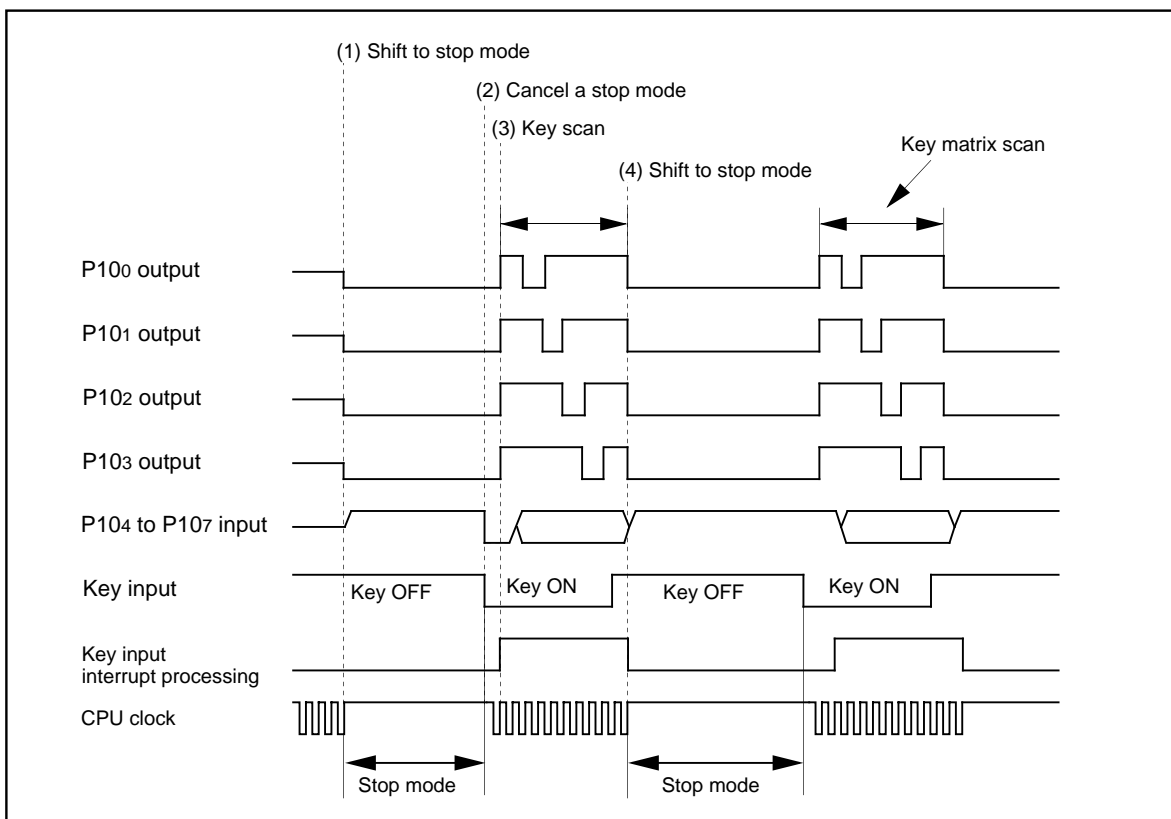
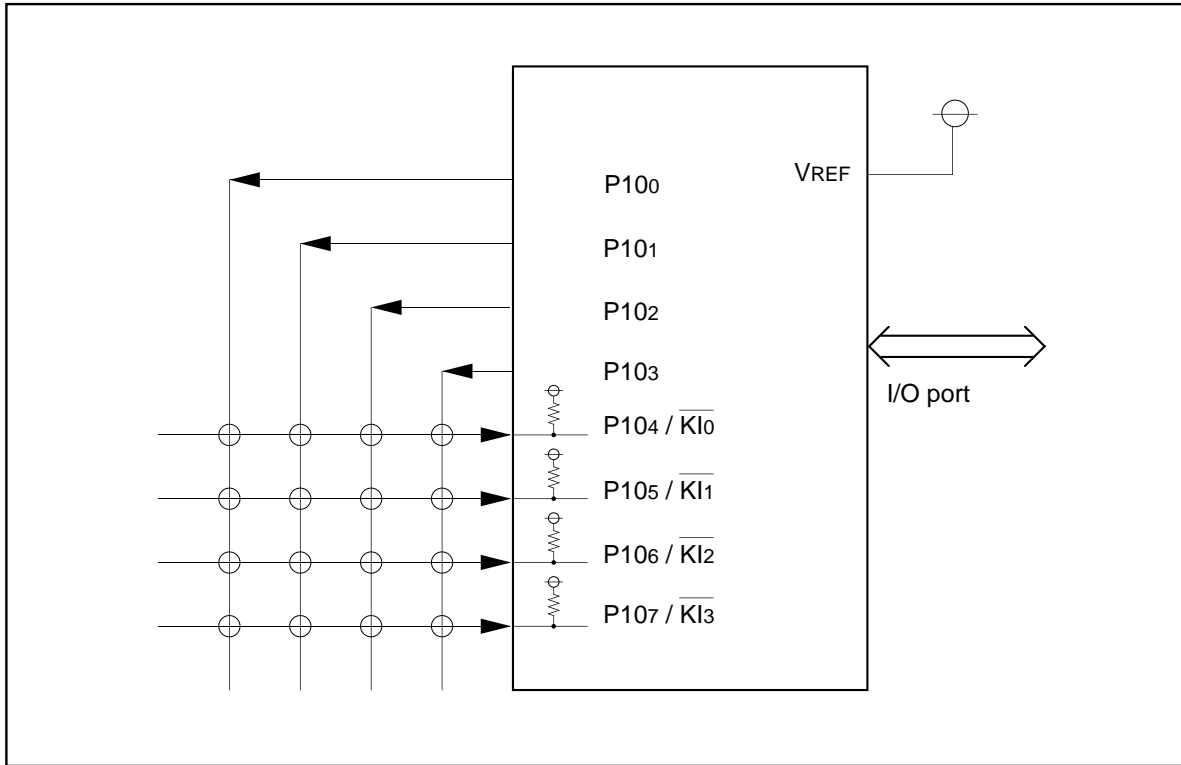
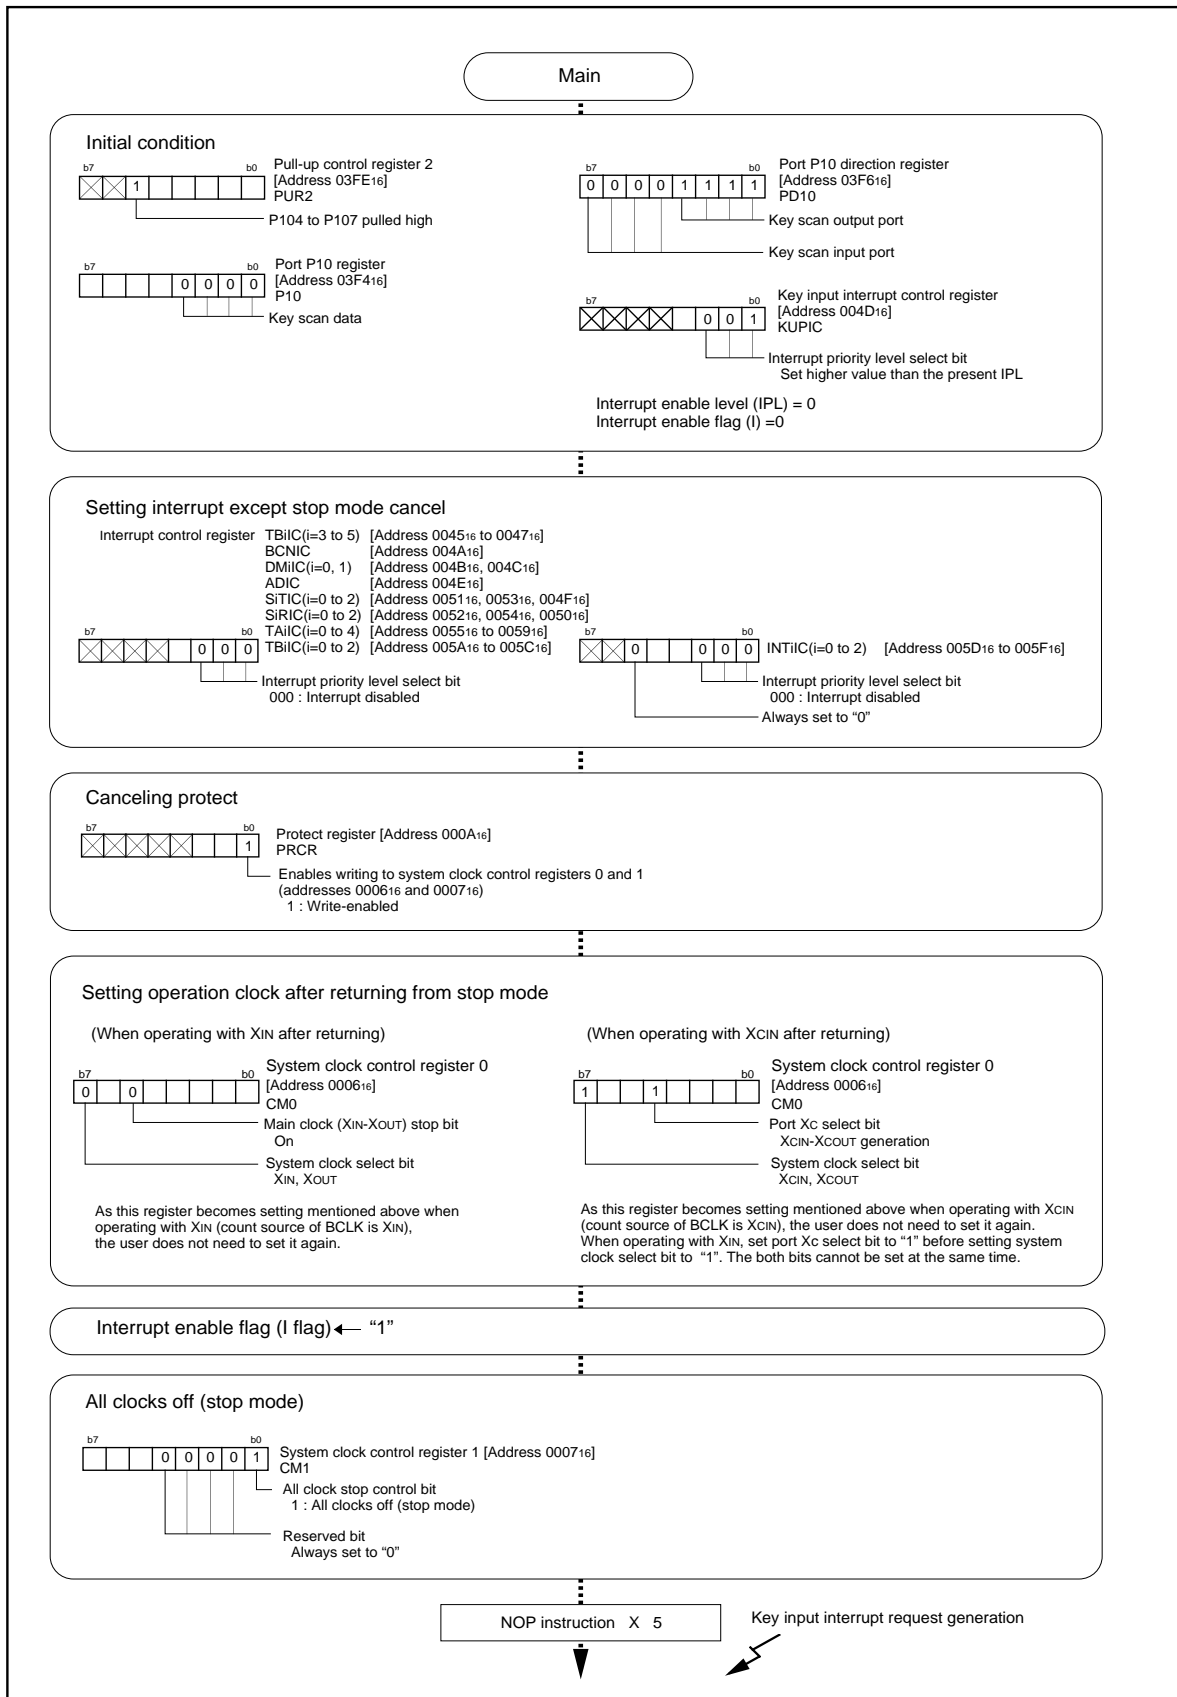

Figure 3.7.1. Operation timing of controlling power using stop mode
Figure 3.7.2. Example of circuit of controlling power using stop mode
Figure 3.7.3. Set-up procedure of controlling power using stop mode (1)
**Overview** The following are steps for controlling power using stop mode. Figure 3.7.1 shows the operation timing, Figure 3.7.2 shows an example of circuit, and Figures 3.7.3 and 3.7.4 show the set-up procedure.